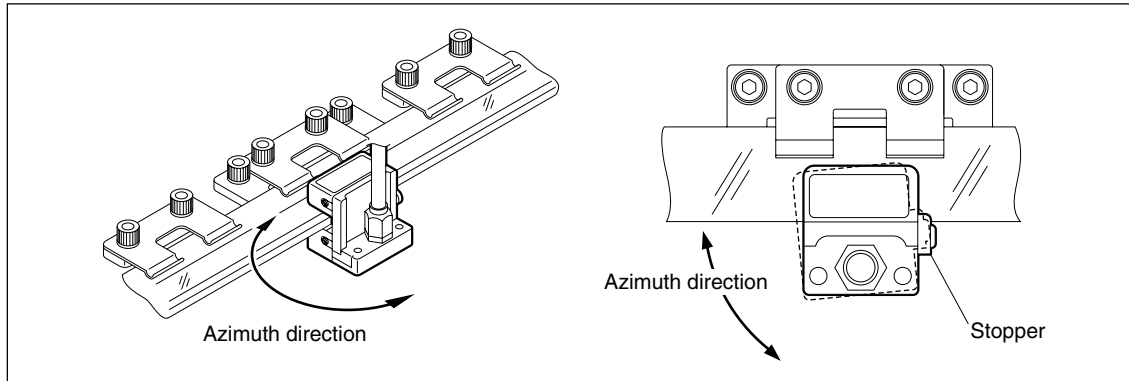

Fig. 3-14
- 2 Rotate the detector head about the stopper in the azimuth direction as shown in Fig. 3-14 to find the location where the Lissajous' figure has the **maximum** amplitude.